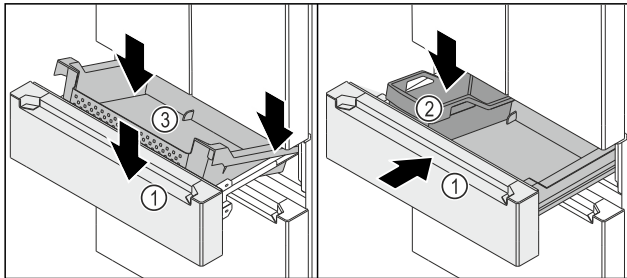

Fig. 152
- ❑ The pull-out cart *Fig. 152 (1)* is pulled out.
- ▶ Place the container *Fig. 152 (3)* to the back on the right and left rails.
- ▶ Lower the container *Fig. 152 (3)* at the front so that the container *Fig. 152 (3)* encloses the rails on the right and left.
- ▶ Insert the FlexBox *Fig. 152 (2)*.
- ▶ Push in *Fig. 152 (1)* the pull-out cart.